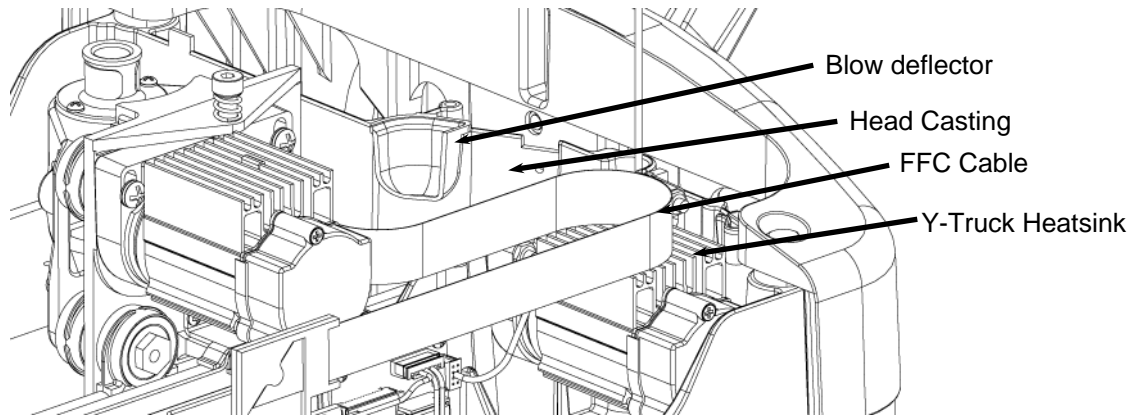

FIGURE 18: PLACEMENT OF THE BLOW DEFLECTOR - ISO
- a. Move the Y-truck all the way to the left side of the machine and make sure that the FFC cable does not drag on the Y-truck heatsink (See Figure 18). If the FFC cable is dragging bend it upwards so that it consistently clears the heatsink.